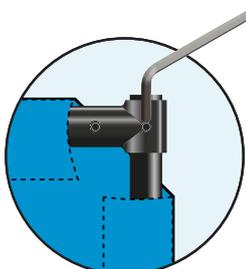

Fig 9.
7. Secure the T joint on the end of the pole by tightening the grub screws with the allen key provided. (Fig 9)